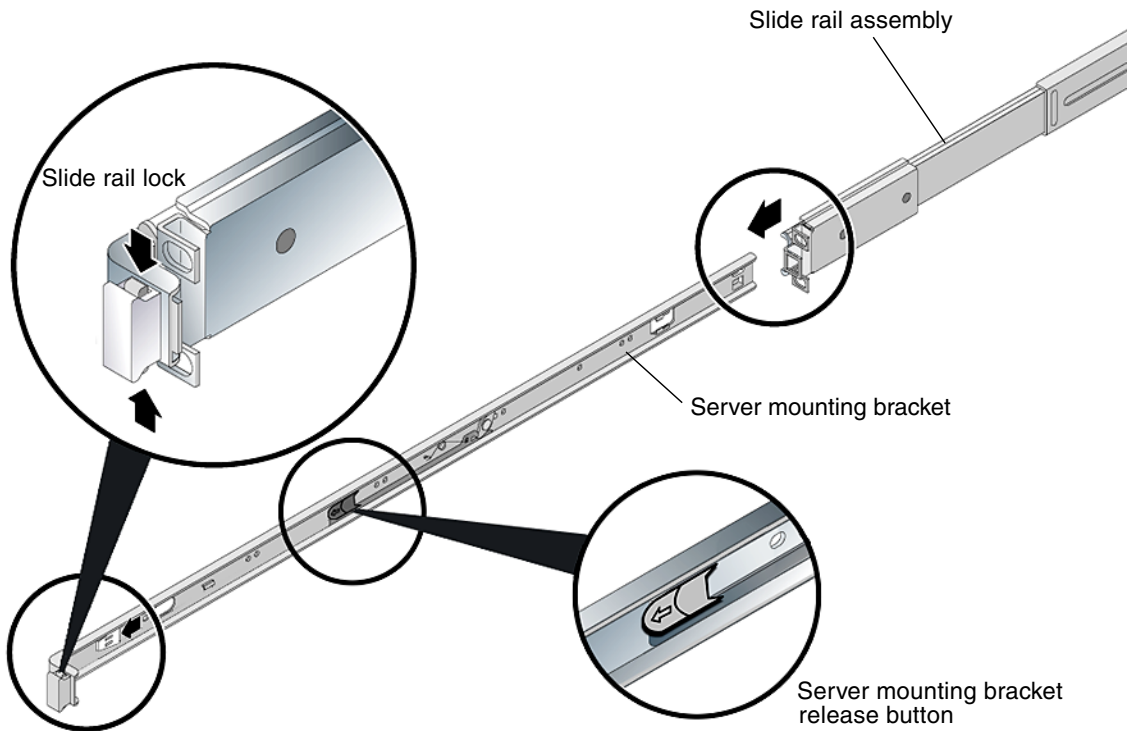

FIGURE 9 Server Mounting Bracket Release Button
5. Pull the server mounting bracket release button toward the front of the mounting bracket (FIGURE 9), while simultaneously withdrawing the server mounting bracket from the slide rail assembly.